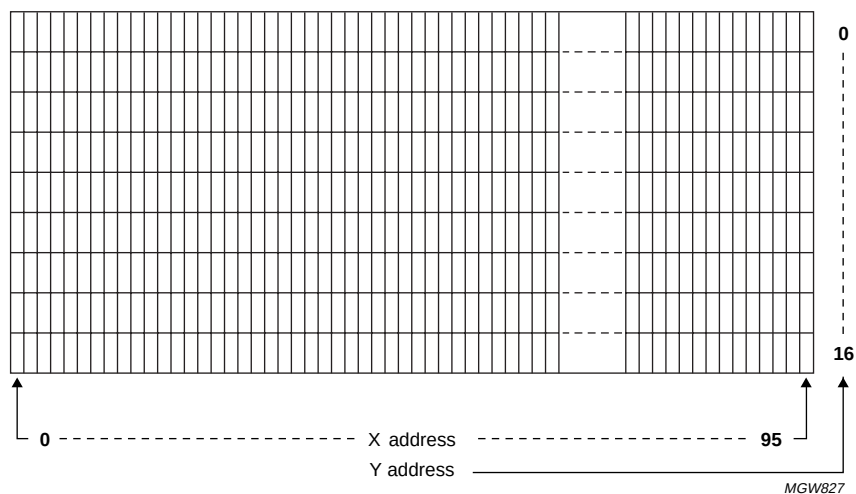

Fig.7 RAM format addressing (MY = 0).
- When MY = 0, the mirroring is disabled and the address Y = 0 is located at top of the display (see Fig.7).